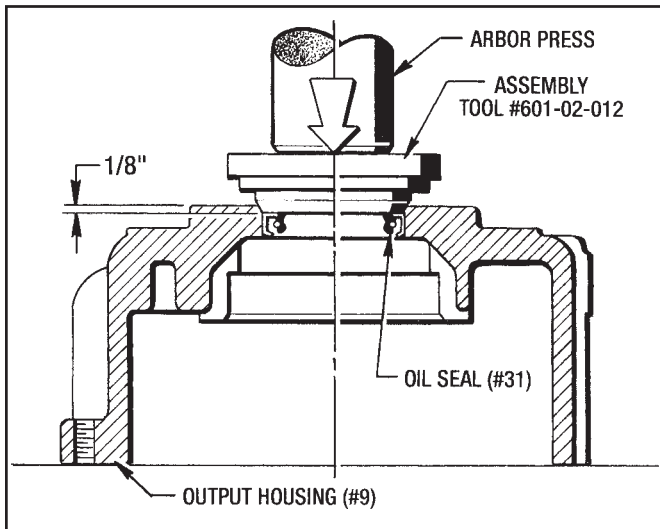

Figure 9.8 - Installing Oil Seal (#31) Into Output Housing (#9)
(See Figures 9.8, 9.9 and 10.1)
1. Apply some Permatex #30 Gasket Sealant to the bore and press the Oil Seal (#31) in to the Output Housing (#9) with the Assembly Tool #601-02-012 as shown in Figure 9.8.
Tool #601-02-012. This procedure is the same as shown in Figure 9.8 for the output housing. Clean off any excess Sealant.